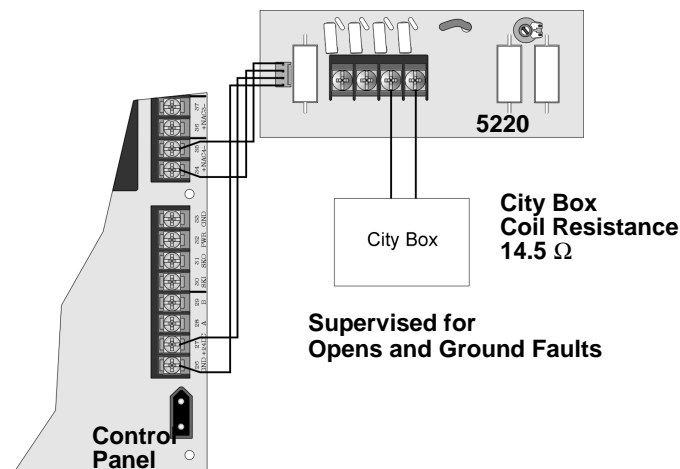

Figure 3-24 City Box Connection
2. Wire the 5220 to the SK-5208 as shown in Figure 3-24. This drawing also shows how to connect the city box coil to terminals 3 and 4 on the 5220.